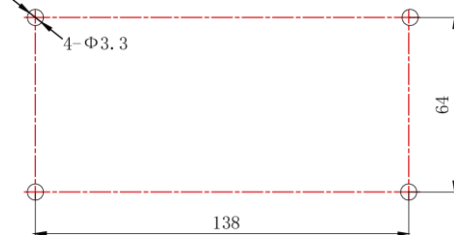

Fig. 3.9 Installation Holes of the Electric Box Rear Cover
- 2) In case that the centralized controller is installed inside the control cabinet, dig 4 installation holes on the surface of the control cabinet according to fig.3.9.
- (4) In step (1), pull out the power core and communication cord, and then lead them separately from the wire orifice of the electric box rear cover. Never lead the cords through a same orifice.
- (5) In step (2), locate the electric box rear cover to the installation holes of the wall with screw $\text{ST}4.2 \times 16 \text{ FA}$.
- (6) In step (6), pull out the wire connecting the touch screen and controller's rear cover. Put the touch screen on a safe place.
- (7) In step (7), connect the communication cords to G1, G2 terminals, and connect the neutral wire and live wire to the N, L terminal; connect the ground wire to position ⏏ on the electric box rear cover. Secure it with screw $\text{M}4 \times 12$.
- (8) In step (8), locate the controller's rear cover onto the electric box rear cover with screw $\text{ST}4.2 \times 9.5 \text{ TC}$.
- (9) In step (9), connect the wire between touch screen and controller's rear cover.